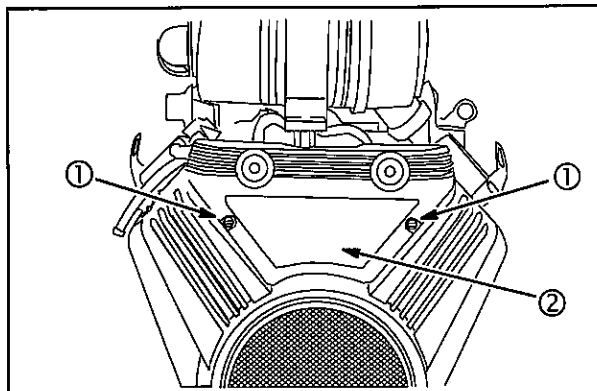

Fig. 26
1. Use a coin or screwdriver to twist the Easy Clean Access™ panel fasteners (1), **Fig. 26** COUNTERCLOCKWISE until a **CLICK** is heard (approx. 3/4 turn).
2. Remove the panel (2).